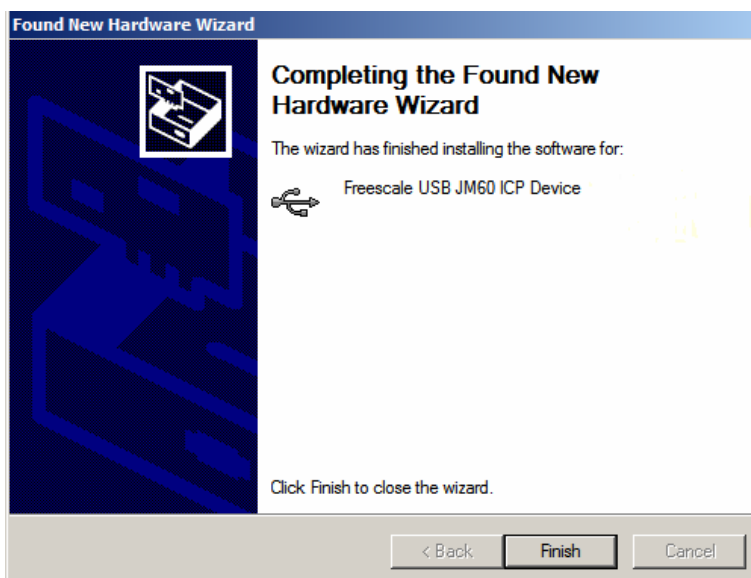

Figure 13. Driver Install Finish
- If the interface as shown in Figure 13 appears, click Finish to complete the installation.